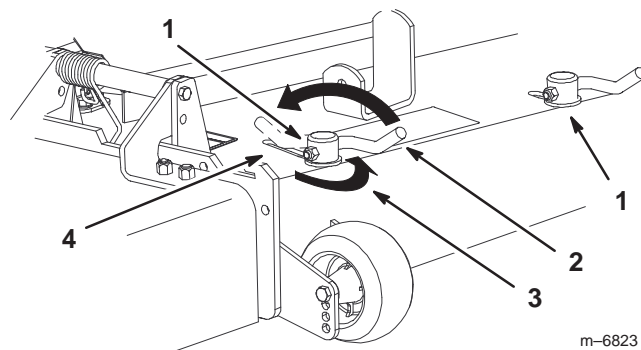

Figure 21
1. To adjust the cam locks, swing the lever up to loosen the cam lock (Fig. 21).